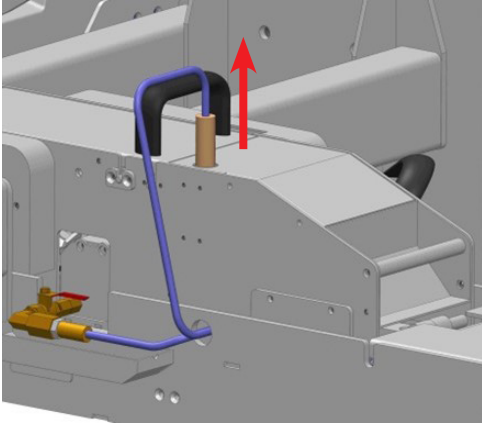

Figure 48: Quick Disconnect
1. Remove quick-disconnect from the top of tape head, (refer to Figure 48).